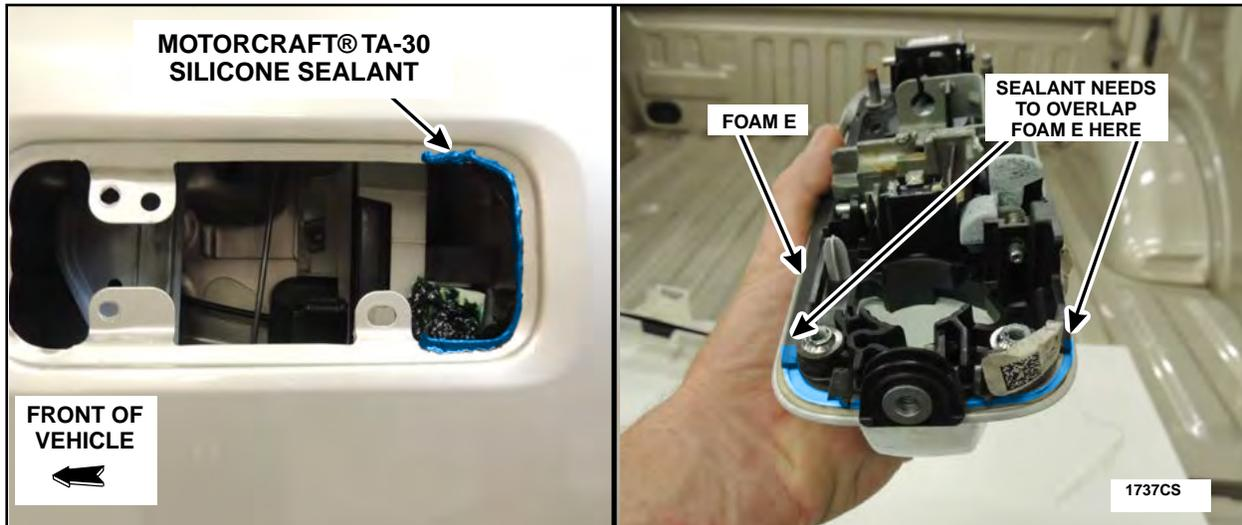

FIGURE 50
20. Apply a bead of Motorcraft® TA-30 silicone sealant to the latch side area of the front door exterior handle opening making sure that the sealant will overlap with the Foam E on the exterior door handle. See Figure 50.